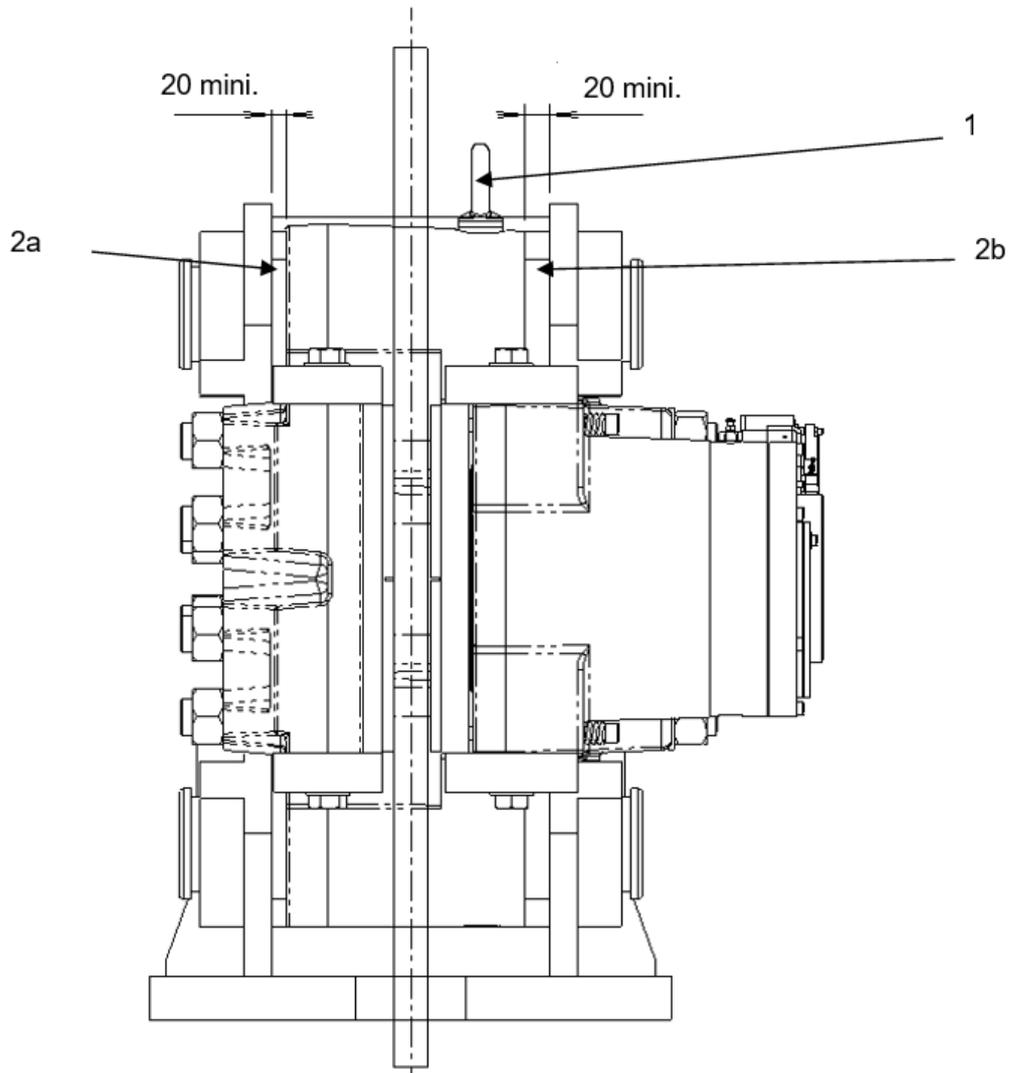

Fig. 2.3
2. Brake HS 215 FHM-560 H Check the disc position 20mm mini fixed pad side 2a; 20mm mini from the other side 2b Fig. 2.3.